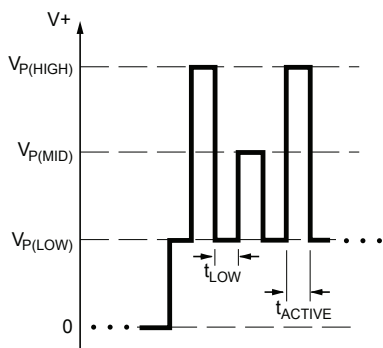

Figure 1. Parameter selection pulse train. This shows the sequence for selecting the register corresponding to key 1, indicated by a single V_{PM} pulse.
Each programmable parameter can be accessed through a specific register. To select a register, a sequence of voltage pulses consisting of a V_{PH} pulse, a series of V_{PM} pulses, and a V_{PH} pulse (with no V_{CC} supply interruptions) must be applied serially to the VOUT pin. The number of V_{PM} pulses is called the *key*, and uniquely identifies each register. The pulse train used for selection of the first register, key 1, is shown in figure 1.